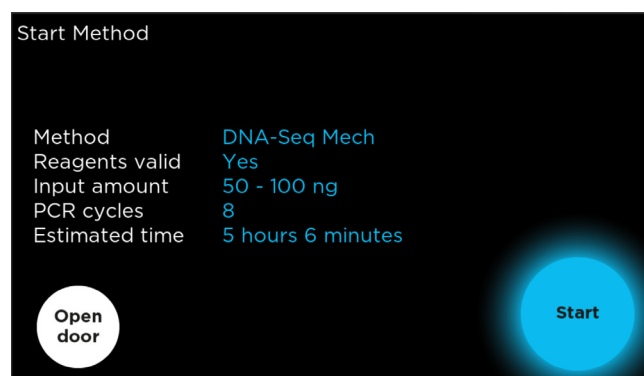

Figure 14. Start method screen.
1. When a run completes, “DNA-Seq Mech complete” will be displayed (Figure 14). Touch the “Retrieve libraries” button when ready to retrieve your completed libraries.